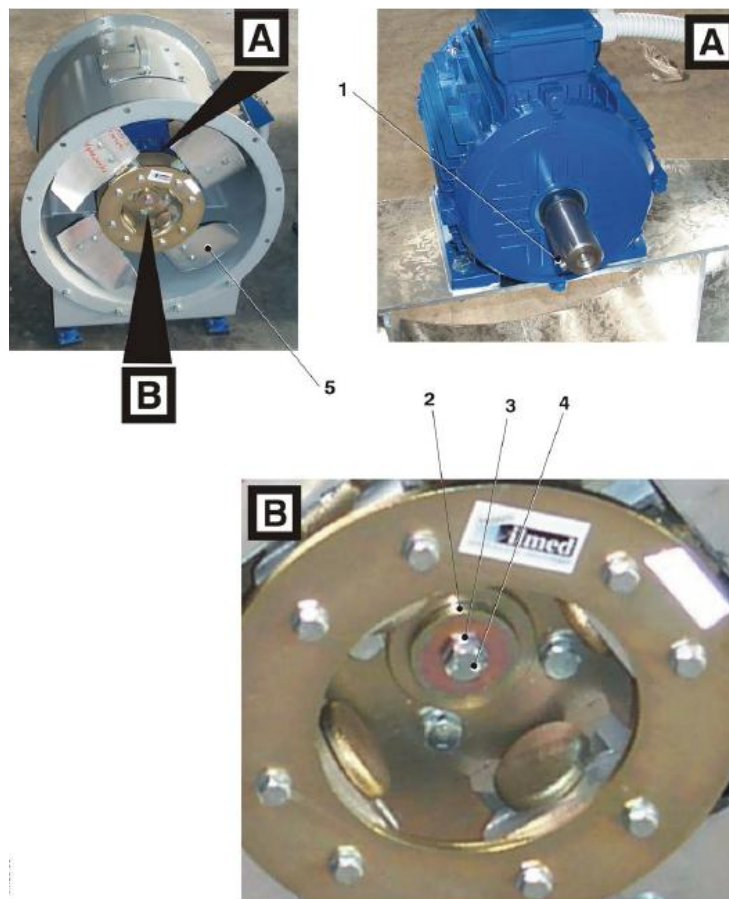

Figure 2-2: Impeller installation for CFF / GFF-08 / LFF fans.
5. Lift the impeller (5, Figure 2-2) and insert it on the driveshaft.
6. Insert the drive shaft key (1).
7. Secure the impeller on the driveshaft using the large washer (2), the small washer (3) and the screw (4).
5. Install the pulley pack (12) on the engine side, on the electric engine output shaft (9).
6. Secure the pulley pack in place (12) on the electric engine output shaft, by inserting the conical bushing (13) and securing it with the two screws (14).
8. Install transmission belts (15) between the two pulley packs.
14. Lift the impeller (5, Figure 2-2) and insert it on the driveshaft.
15. Insert the drive shaft key (1, Figure 2-2).
16. Secure the impeller on the driveshaft using the large washer (2, Figure 2-2), the small washer (3, Figure 2-2) and the screw (4, Figure 2-2).
6. Install the pulley pack (13) on the engine side, on the electric engine output shaft (9).
7. Secure the pulley pack in place (13) on the electric engine output shaft, by inserting the conical bushing (14) and securing it with the two screws (15).
9. Install transmission belts (16) between the two pulley packs.
15. Lift the impeller (5, Figure 2-2) and insert it on the driveshaft.
16. Insert the drive shaft key (1, Figure 2-2).
17. Secure the impeller on the driveshaft using the large washer (2, Figure 2-2), the small washer (3, Figure 2-2) and the screw (4, Figure 2-2).